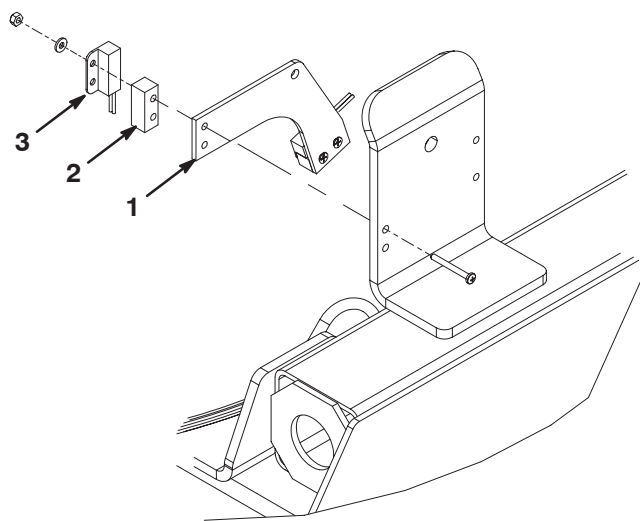

Figure 4
7. Loosely assemble a new switch and block spacer to the switch plate with (2) # 10 x 1-1/2 inch screws, .216 x .500 flat washers and # 10 nuts (Fig. 4). The screw heads are to be flush with the tops of the counter sunk holes in the switch plate.
8. Loosely assemble the switch plate assembly, block spacer and another switch to the frame mounting bracket with (2) # 10 x 1-1/2 inch screws, .216 x .500 flat washers and # 10 nuts (Fig. 4).